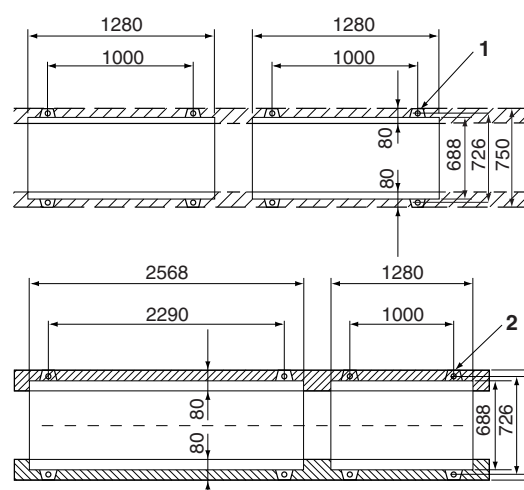

Fig. 1
The foundation must support the unit in the range above the shaped portion in the figure 1.
3. The unit must be installed on a solid longitudinal foundation (steelbeam frame or concrete) as indicated in figure 1.